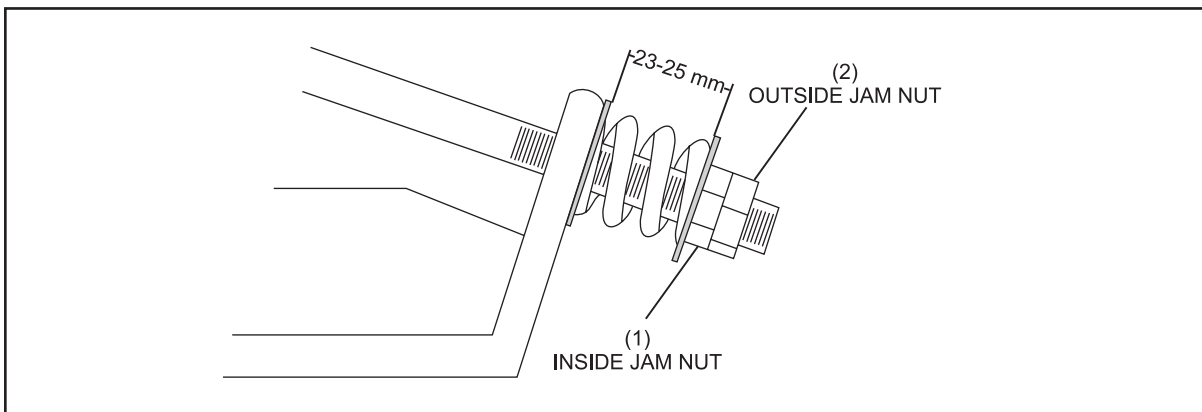

Figure 5-3. Transport Band Tension Using Compression Springs
1. Tighten the inside jam nut until the spread of the compression spring is 23 to 25 mm. Refer to *Figure 5-3*.
3. If the band is moving to the left, tighten the inside jam nut on the left side 1/2 turn and loosen the inside jam nut on the right side 1/2 turn. Refer to *Figure 5-3*. If the band is moving to the right, tighten the inside jam nut on the 1/2 turn and loosen the inside jam nut on the left 1/2 turn.